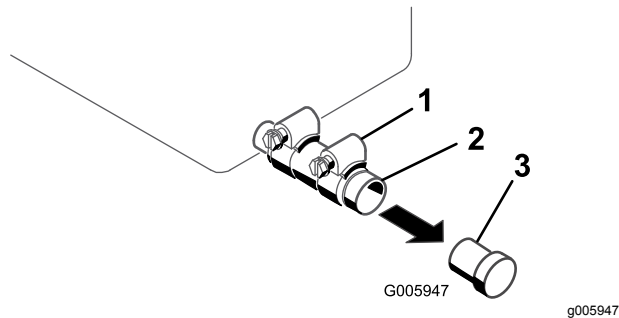

Figure 29
4. Place a pan under the oil-drain tube (Figure 29).
5. Loosen the clamp and remove the plug (Figure 29).